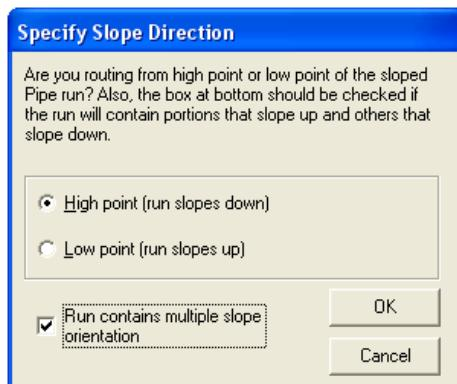

Figure 8: Specify Slope Direction Dialog Box
- The **Specify Slope Direction** dialog box appears, as shown in Figure 8. You need to route a pipe that slopes downwards. Select the **High point (run slopes down)** option and the **Run contains multiple slope orientation** check box. Then, click **OK** to close the **Specify Slope Direction** dialog box.